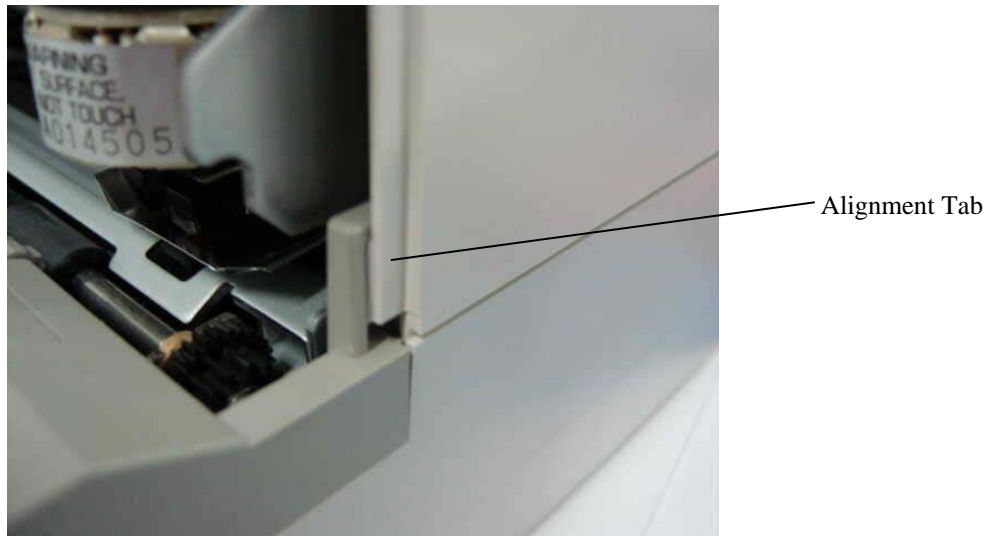

Figure 17 – Replacing the Top Cover
7. Replace the Top Cover by aligning the Tab and press the Top Cover in place. (Figure 17)